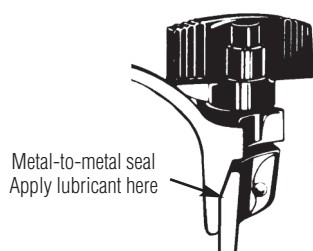

Fig. 1
1. Metal-to-Metal seal (See Fig. 1). We recommend periodically checking the metal-to-metal seal and lubricating as needed. It is extremely important to keep the seal lubricated